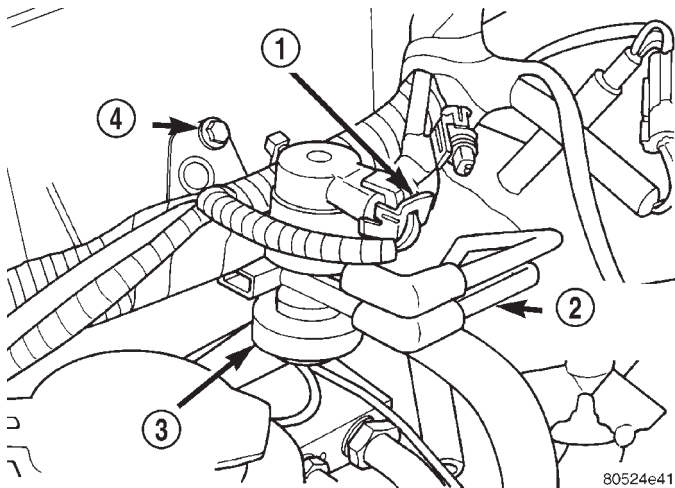
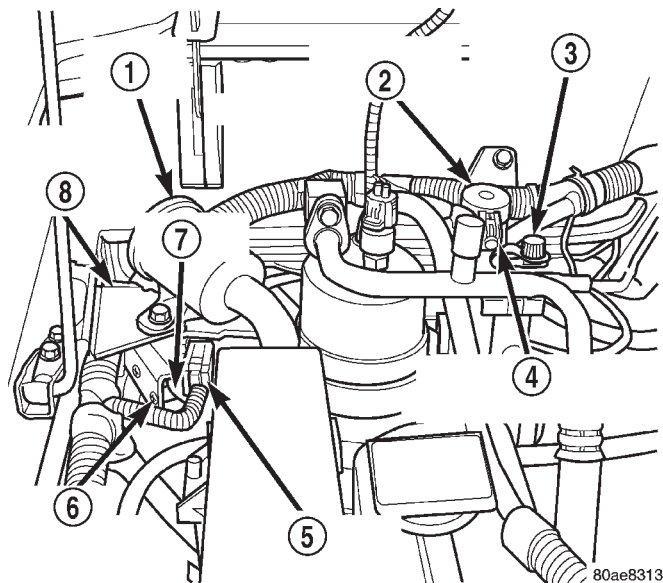

Fig. 8 EVAP Canister Purge Solenoid (Without LDP)
Fig. 9 EVAP Canister Purge Solenoid (With LDP)
The solenoid attaches to a bracket located in right-rear side of engine compartment (Fig. 8) or (Fig. 9). The top of the solenoid has the word UP or TOP on it. The solenoid will not operate properly unless it is installed correctly.
The LDP is located in the right-rear side of engine compartment (Fig. 9). The LDP filter is located above the LDP (Fig. 9). The LDP and LDP filter are replaced (serviced) as one unit.
- (1) Carefully remove hose at LDP filter.
- (2) Remove LDP filter mounting bolt and remove from vehicle.
- (3) Carefully remove vapor/vacuum lines at LDP.
- (4) Disconnect electrical connector at LDP.
- (5) Remove 2 LDP mounting screws (Fig. 9) and remove from vehicle.